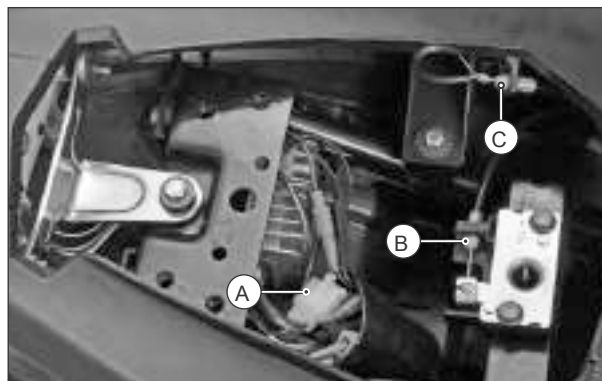

Fig. 2.22
- 3 Disconnect the tail lamp coupler (A) from the wiring harness. (Fig. 2.22)
- 4 Disconnect the rear seat lock cable (B) from the seat latch and release it from its locating bracket. (Fig. 2.22)
- 5 Similarly, release the seat release cable (C) of front seat from its locating bracket. (Fig. 2.22)